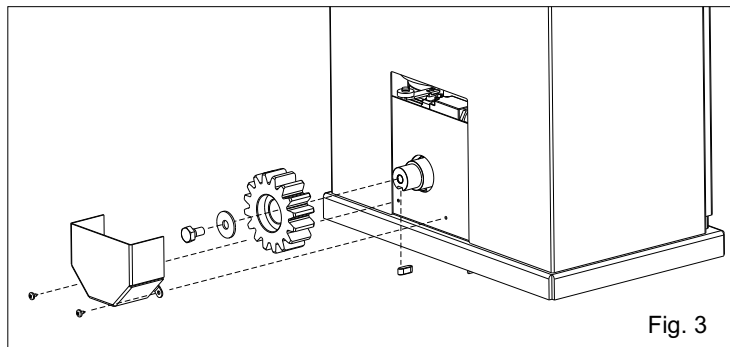

Fig. 3
3.1. Put the spline into the motor reducer shaft as in Fig. 3.
3.2. Mount the pinion on the motor as shown in fig.3